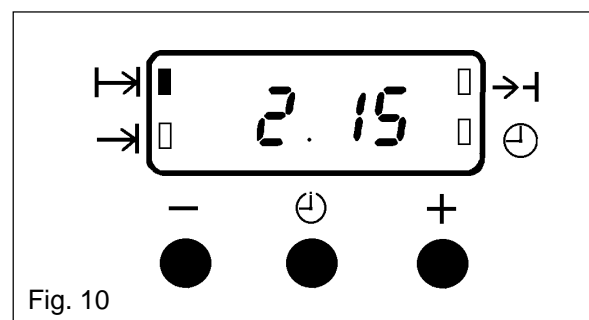

Fig. 10
- iii) To set the length of cooking time, press the Selector Control button until the 'Cook Time' (↔) indicator is illuminated. Press the increase control (+) until the required length of cooking time is displayed, e.g. 2 hrs 15 mins as Fig. 10. Depress the decrease control (-) if necessary.